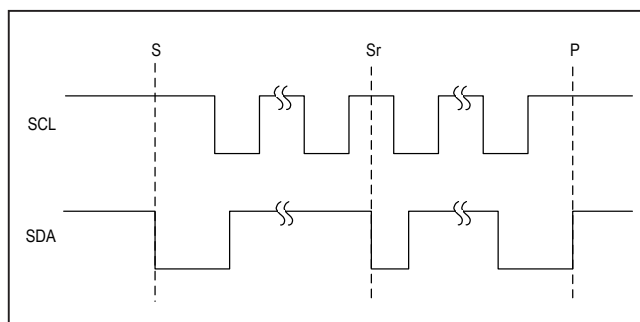

Figure 10. I2C START, STOP, and REPEATED START Conditions
When writing to the MAX20343 using I2C, the master sends a START condition (S) followed by the MAX20343 I2C write address. After the address, the master sends the register address of the register that is to be programmed. The master then ends communication by issuing a STOP condition (P) to relinquish control of the bus, or a REPEATED START condition (Sr) to communicate to another I2C slave. See Figure 10.